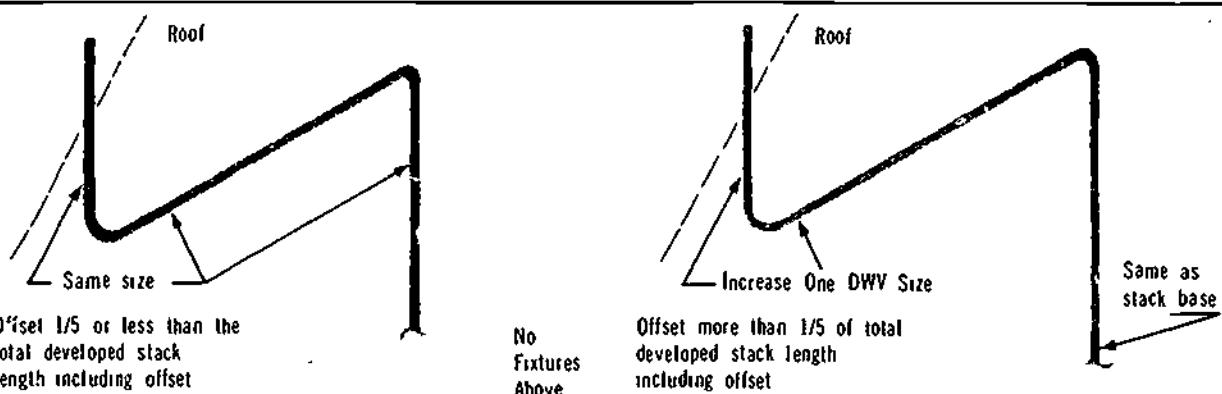

Figure 37-5. Offsetting Top of Stack
23. Should it be necessary to offset the top of the stack, above the highest fixture, the sizing procedure is as shown in Figure 37-5.